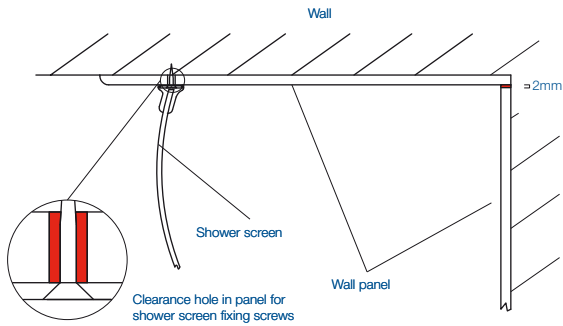

Fig B3 Panelling a shower before the enclosure is fixed without using an internal corner section
- 8 Using mirror lifters, carefully lift the panel in place and press back firmly all over allowing a 5mm gap between the floor and base of the panel (use 5mm spacers to hold panel in place until adhesive cures) Ensure a 2mm gap is allowed for BB Complete where the panels meet, as shown in *fig B3*.